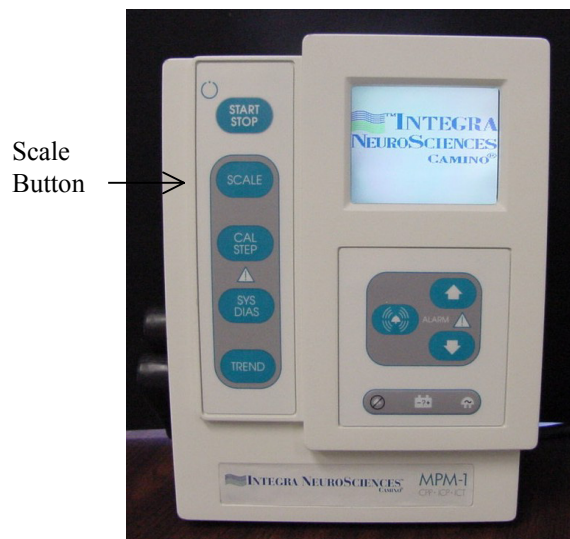

Figure 2-6 Scale Button
6. After the Catheter has been inserted into the patient, (see the catheter Directions For Use for proper insertion technique) select the appropriate scale by repeatedly pressing the **SCALE** button on the MPM-1 front panel (Figure 2-6).